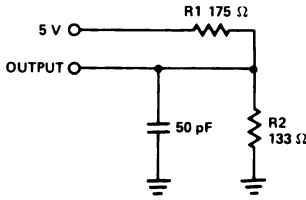
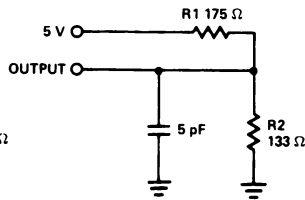

Figure 1a. Commercial
Figure 1b. Commercial
- Figure 1a test load used for all parameters except t_{EA}, t_{ER}, t_{PZX} and t_{PXZ}. Figure 1b test load used for t_{EA}, t_{ER}, t_{PZX} and t_{PXZ}.